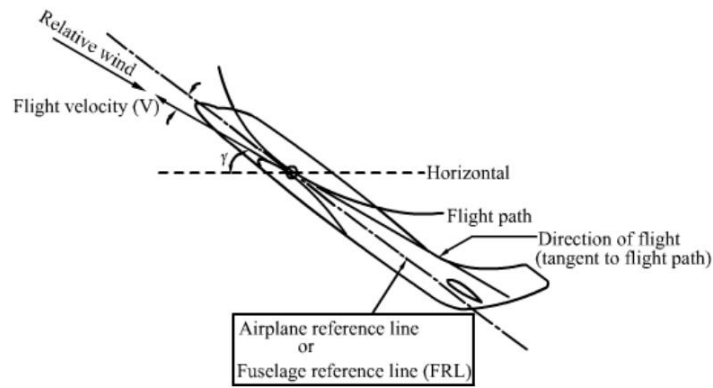

Fig.15 Flight path in the plane of symmetry
In the case of an airplane, the flight path, as mentioned earlier, is the line along which c.g. of the airplane moves. The tangent to the flight path is the direction of flight velocity (V). The relative wind is in a direction opposite to the flight velocity. If the flight path is confined to the plane of symmetry, then the angle of attack would be the angle between the relative wind direction and the fuselage reference line (FRL) or OXb axis (see Fig.15). However, in a general case the velocity vector (V) will have components both along and perpendicular to the plane of symmetry. The component perpendicular to the plane of symmetry is denoted by 'v'. The projection of the velocity vector in the plane of symmetry would have components u and w along OXb